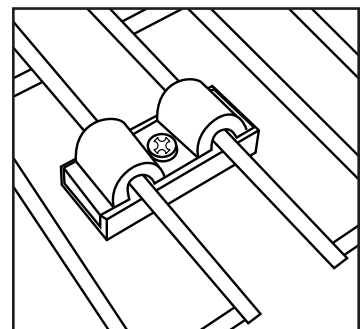

fig. 4
3. If mounting multiple panels, use the **Connecting Plates and Connecting Plate Screws in conjunction with the Wall-Mount Brackets as shown** (fig. 4).